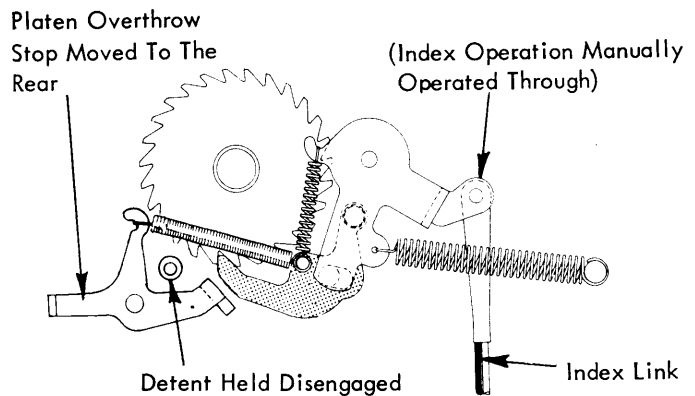

FIGURE 152. *Index Link Adjustment*
- a. As a preliminary step, loosen the platen overthrow stop and move it to the rear (Fig. 152).